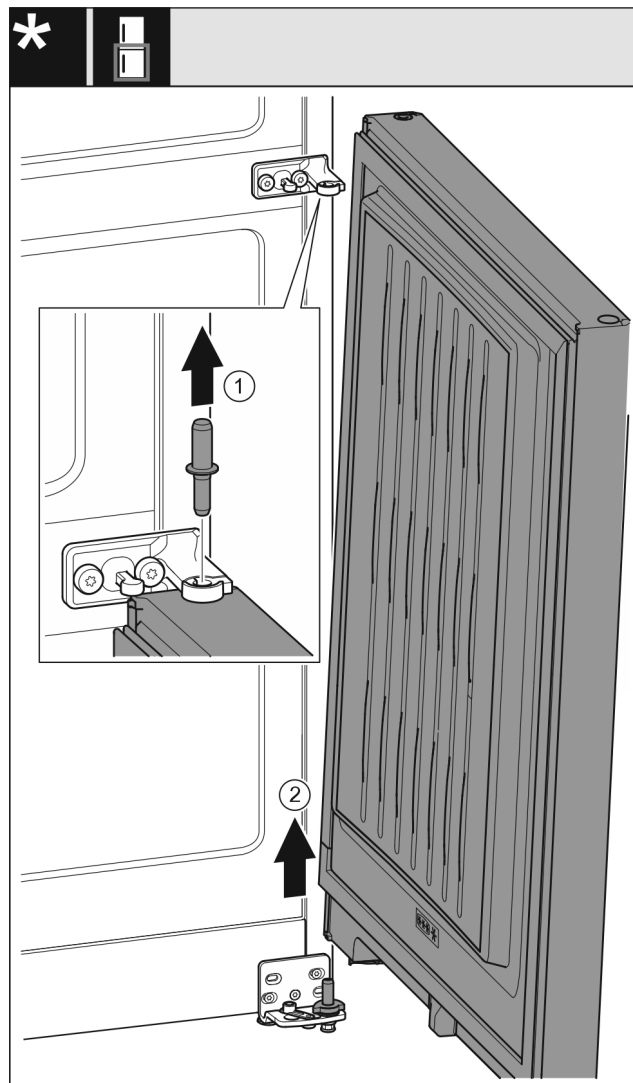

Fig. 8
- ▶ Pull out the bolts upwards. Fig. 8 (1)
- ▶ Swing the door out, pull it upwards and place it to one side. Fig. 8 (2)